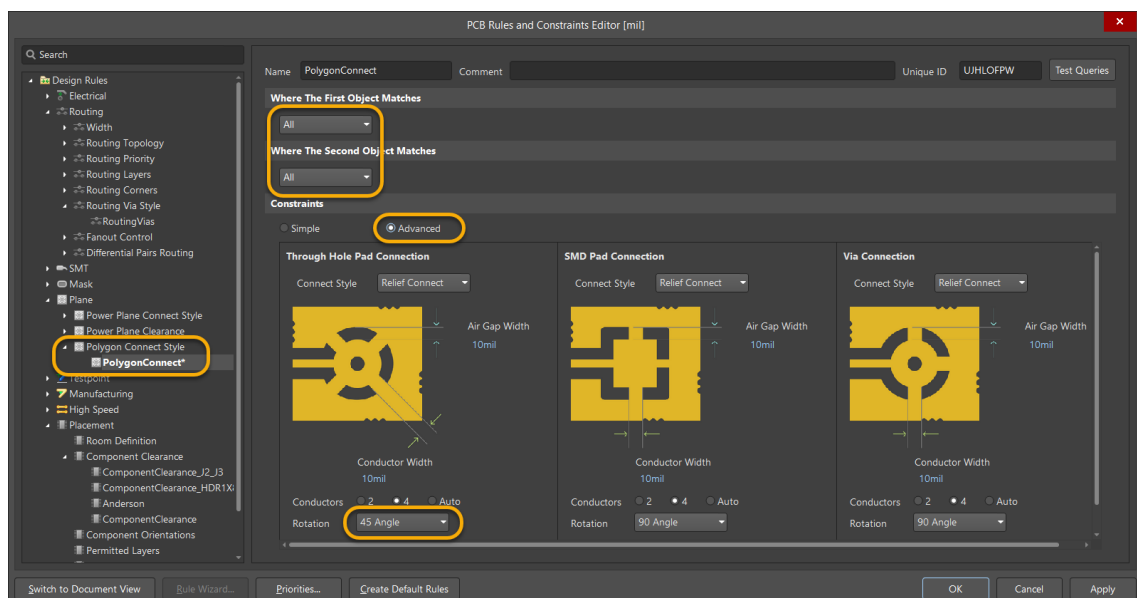

Figure 19. Polygon Connect Style rule
56. Under the *Plane* rule category, select *Polygon Connect Style* and then select the *PolygonConnect* rule to open it as shown in Figure 19.